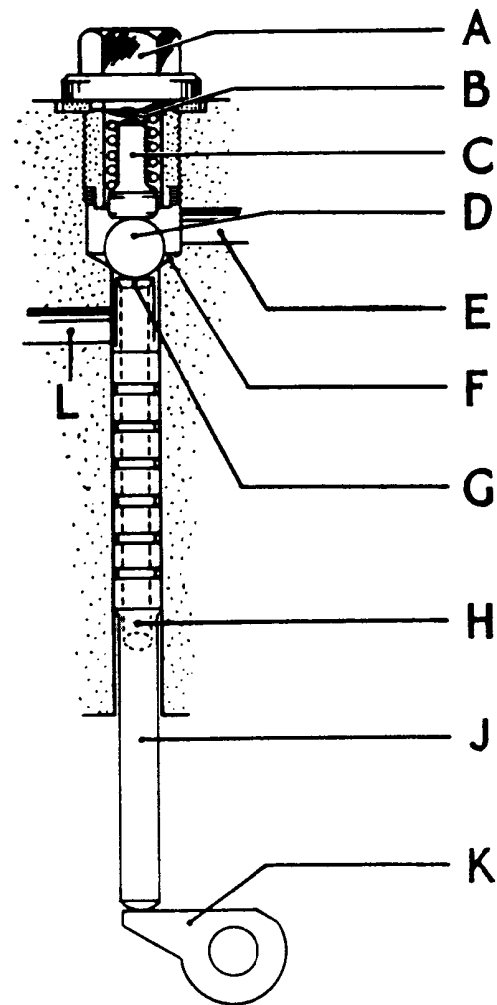
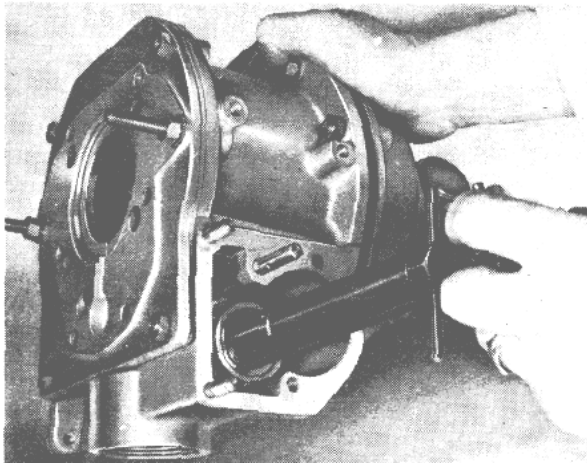

Fig. 9 The Operating Valve.
Fig. 14 Extracting the Piston Housing
The operating valve chamber (Fig. 9) is an enlargement at the top of a vertical hole in the overdrive casing. It is sealed with a screwed plug (A) and contains a spring (B) and plunger (C), which hold a steel ball (D) downwards against a seating (F), to prevent oil from circulating to the operating cylinders. The valve (J) is a hollow spindle sliding in the hole with a conical seating (G) for the steel ball in the top end. When the valve is lifted by the cam lever (K) it seats against the ball which is then lifted, admitting oil from the pressure accumulator via the drilled passage (E) to the passage (L) and into the operating cylinders, moving the pistons forward to engage the cone clutch.
To use the extractor, first remove the operating valve plug "A" (Fig 9) to admit air to the rear of the housing, insert the nose of the extractor as far as it will go into the bore of the housing, tighten the tommy bar and pull (Fig. 14).